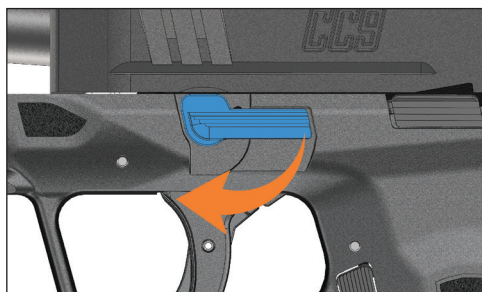

Figure 15 – Rotating the disassembly lever
2. With the slide still locked to the rear and the magazine removed, rotate disassembly lever, located on the left-hand side of the frame assembly, downward until the lever is pointing to approximately the six o'clock position (see Figure 15).